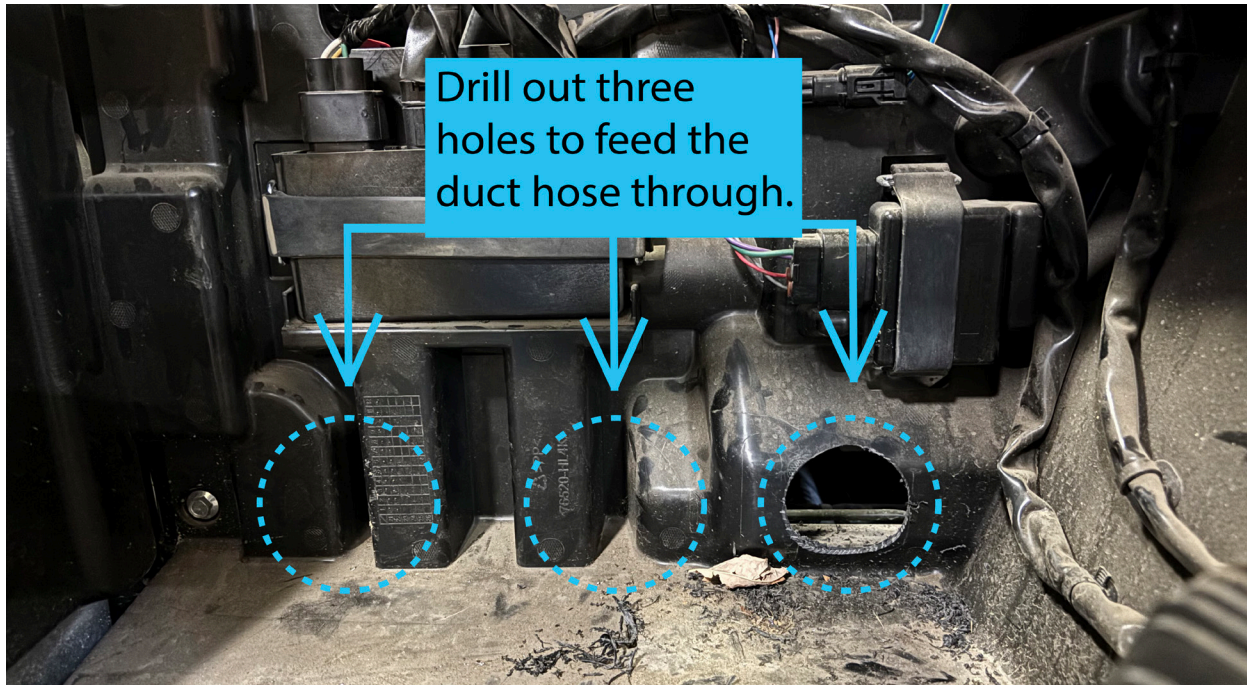

FIGURE 8
18. Using the 2" hose saw, cut three holes under the driver seat into the engine compartment. FIGURE 8